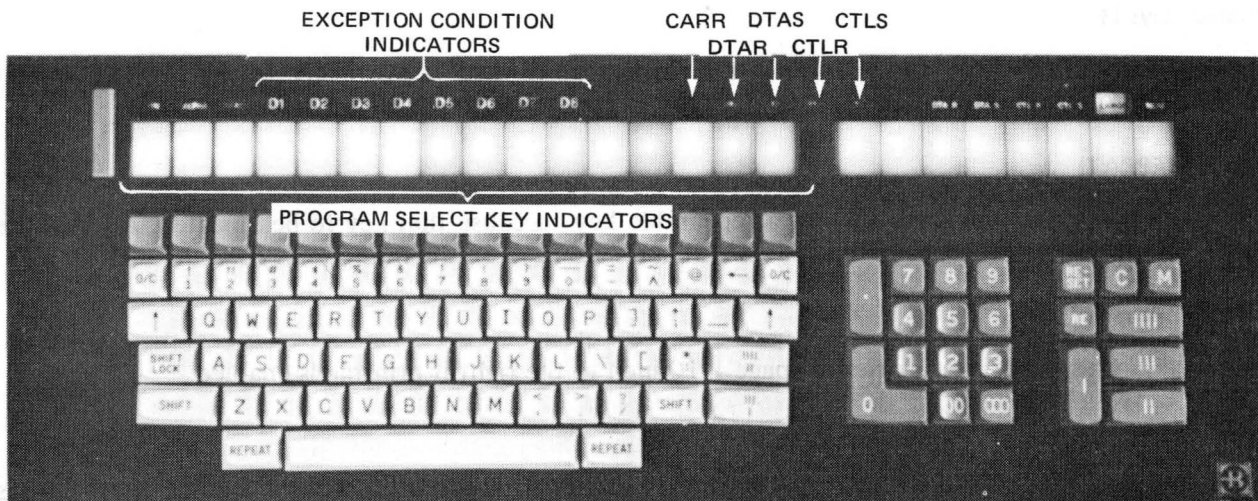

Figure 3-2. Indicator Lights
Up to 50 indicator lights are provided to communicate information to the operator as shown in figure 3-2. These lights are arranged in two rows, with the lower row corresponding to program select keys. Each of these indicators is located above its corresponding program select key (PK) and when illuminated, informs the operator that the PK is enabled.